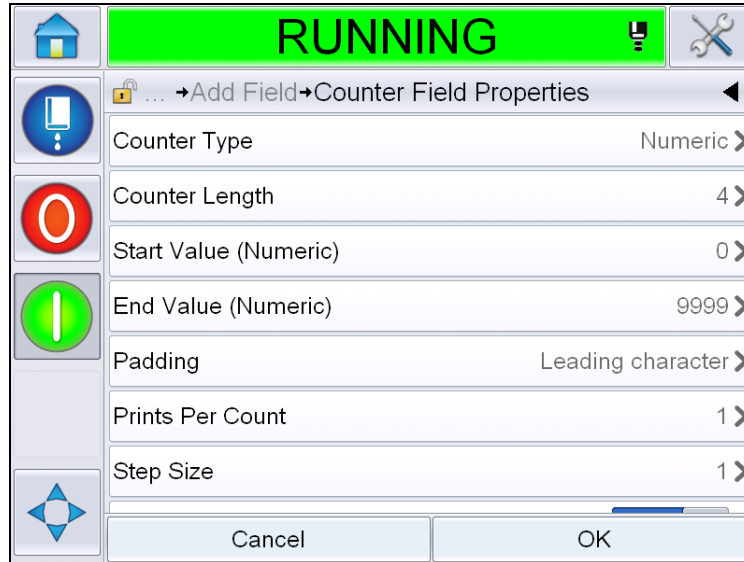

Figure 5-33: Counter Field Properties Page
- 13 Touch . Displays the *Add Field* Page. Select Counter field. Displays the *Counter Field Properties* page (Figure 5-33). For information on counter fields refer Table 5-17 on page 5-49.